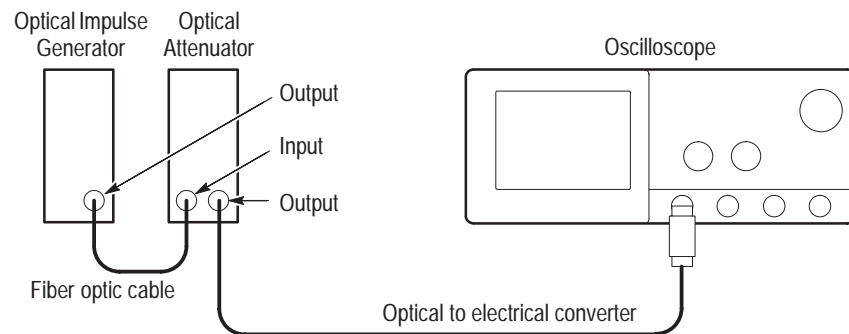

Figure 4–42: Reference-receiver performance-verification set up
- Connect the optical probe to CH 1 of the oscilloscope under test (see Figure 4–42).